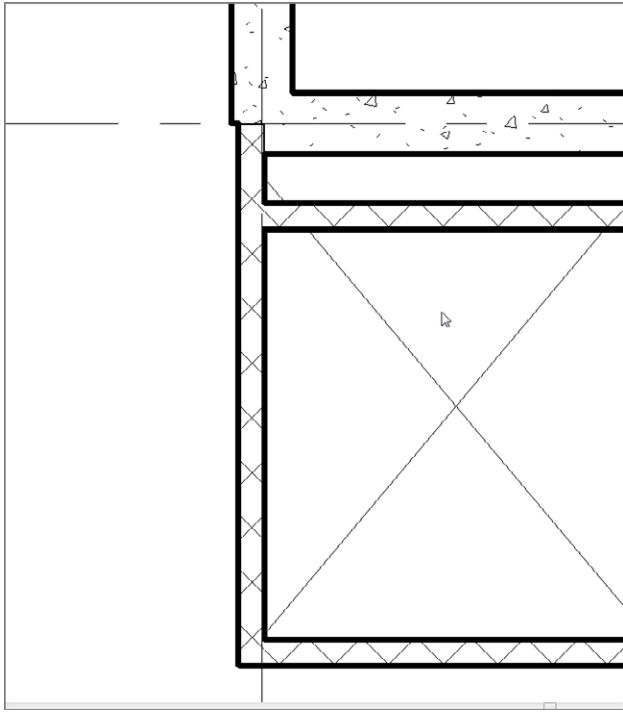

FIGURE 8.54: The walls aren't behaving as you would like them to.
2. Zoom in to the east wing area, where the north elevator meets the foundation wall. There is an issue: the walls are funky, as shown in Figure 8.54.